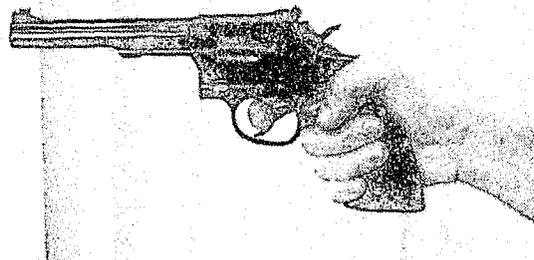

Figure 6-16
- c. The trigger finger should be positioned properly for good, "straight back" trigger control. (See Figure 6-16)
- d. The wrist should be straight and locked. (See Figure 6-16) Barrel, frame, and forearm in a straight line.